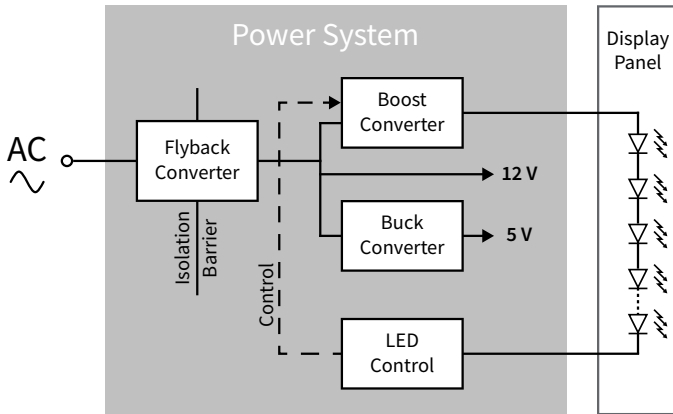

Figure 1 Traditional multi-stage DC-DC based system
To illustrate the impact of this new approach, Figure 1 shows a block diagram of a traditional power system used in modern equipment with LED displays such as domestic appliances and computer monitors. An AC-DC stage provides an intermediate DC output rail that is then post-regulated to feed several outputs including the LED display backlight, audio and analog circuitry and downstream processors. A boost converter steps-up the intermediate rail to a variable 48 V – 60 V to support the constant current (CC) controlled LED backlight. A buck device steps down to a constant voltage (CV) 5 V rail which is then often followed by a further buck or linear regulator (not shown) to 3.3 V rails to drive the microcontrollers.